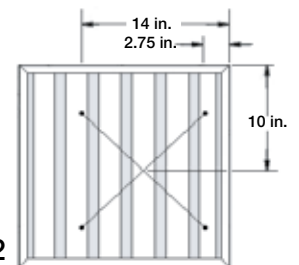

Fig. 32
- For 20 in. (500 mm) wide filters, position the grid as shown in Fig. 32 and 33. Average two measurements.